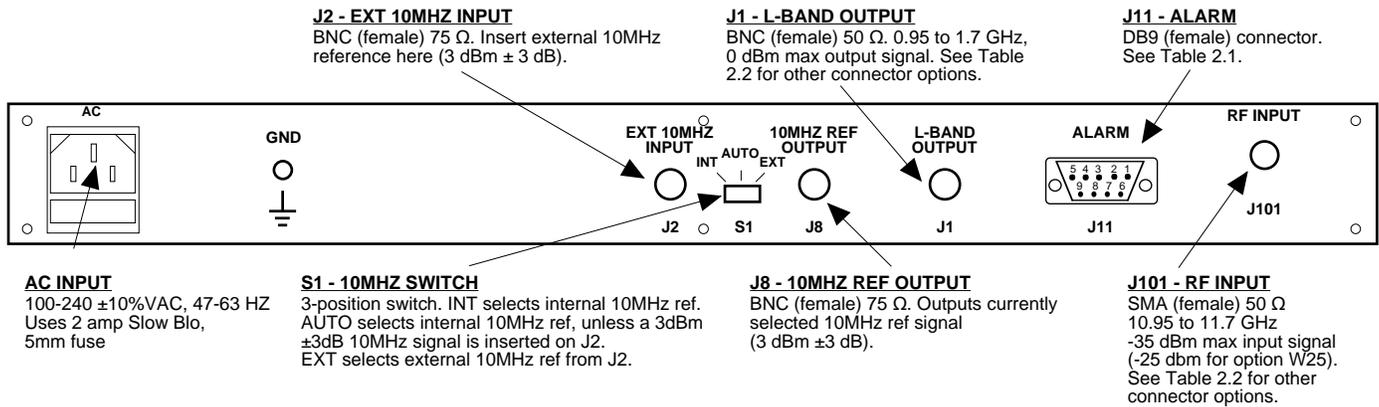

FIGURE 2.1 2116-109 Rear Panel I/O's
Figure 2.1 shows the input and output connectors on the rear panel.
1. Connect a -55 dBm to -35 dBm signal (-45 dBm to -25 dBm for Option W25) RF INPUT, J101 (Figure 2.1).
5. Select either INT (for internal 10MHz ref), AUTO (for internal 10MHz ref UNLESS an external 10MHz, 3 dBm signal is connected to J2), or EXT (for external 10MHz, 3 dBm ref that is inserted at J2) on rear panel switch S1 (Figure 2.1).
7. Check that a 10MHz, 3 dBm \pm 3 dB signal is present at the 10MHZ REF OUTPUT (J8) (Figure 2.1).